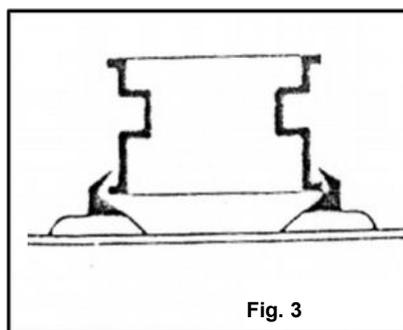

Fig. 3
- Clamp the rim firmly onto the mounting disc using the claws. When fitting the wheel, select a clamping claw position that does not damage the rims. Clamping is possible from the outside or inside (Fig. 3 & 4).